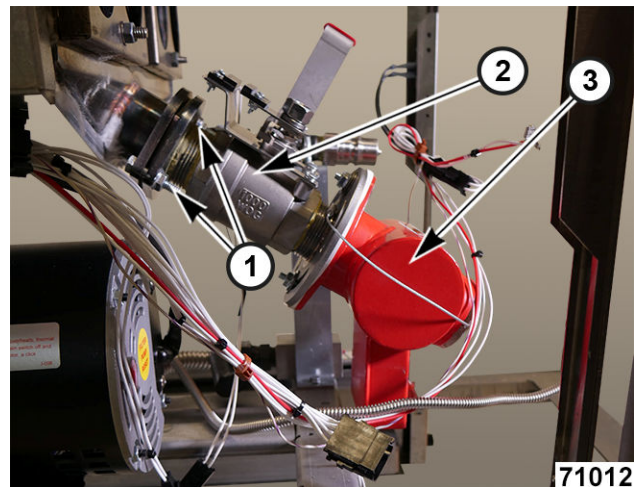

Fig. 113
16. Remove drain valve bolts (1, Fig. 113).
17. Remove drain valve (2, Fig. 113) and manifold (3, Fig. 113) assembly.